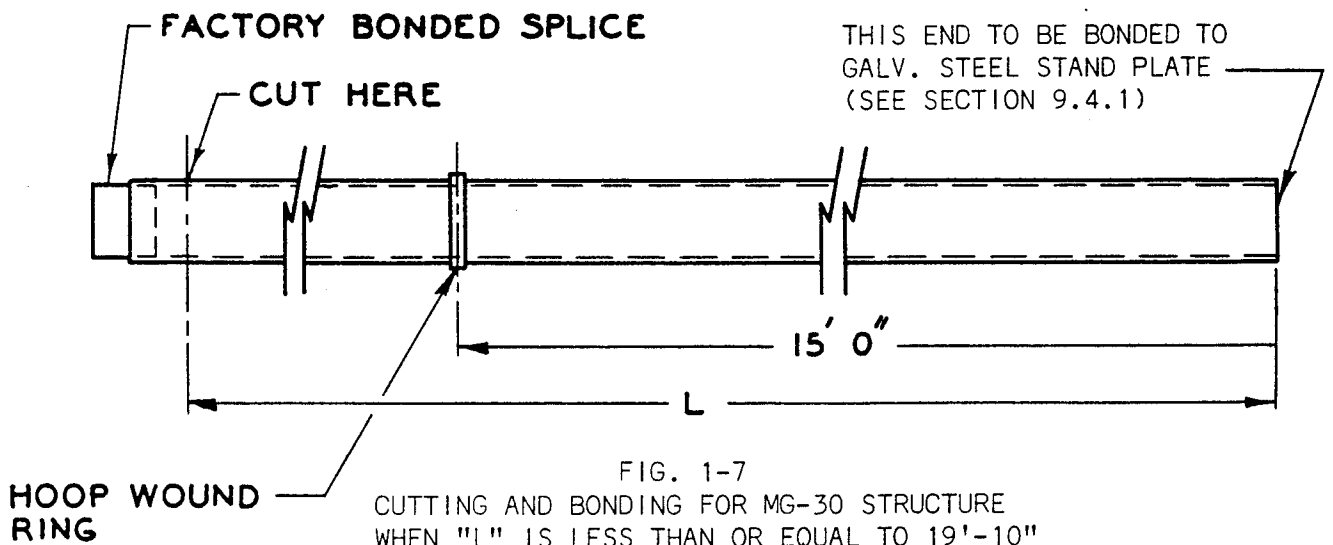

FIG. 1-7
1.5.2.2 When the "L" value computed by the formula given in Section 1.5.2 is less than or equal to 19'-10", then the "B" Tube is cut off at a point "L" inches from the end opposite the factory bonded splice. (See Fig. 1-7)